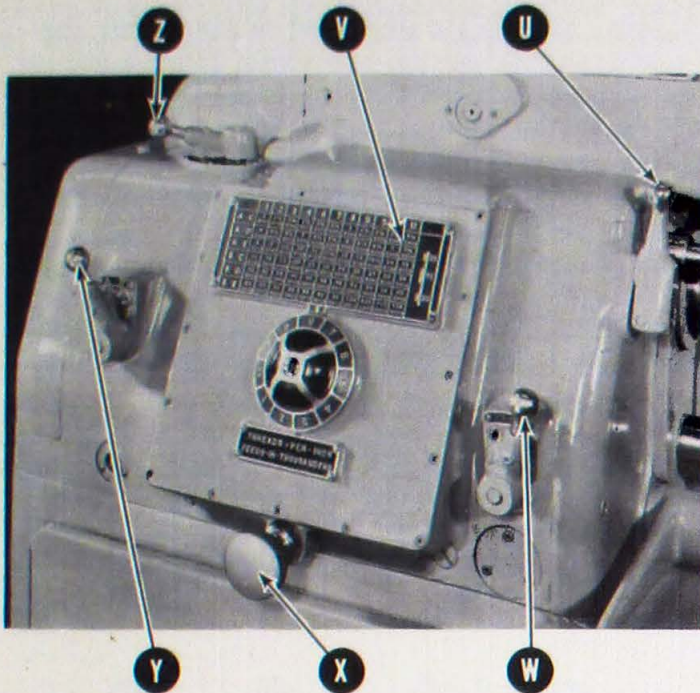

FIGURE 4 — Gear Box Control Levers
Large, easily read index plate (V) Figure 4 shows the wide range of threads and feeds obtainable by moving levers (Y) and (Z) in conjunction with knob (X). To set for a particular thread or feed, move tumbler lever (U) to the right and down. Turn knob (X) until number opposite index mark corresponds to number at top